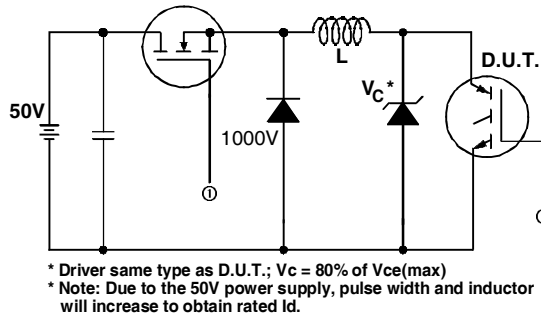

Fig. 13a - Clamped Inductive Load Test Circuit
- ② $V_{CC} = 80\%(V_{CES})$, $V_{GE} = 20V$, $L = 100\mu\text{H}$, $R_G = 7.5\Omega$, (See Fig. 13a)
- ③ Pulse width $\leq 80\mu\text{s}$; duty factor $\leq 0.1\%$.
- ④ Pulse width $5.0\mu\text{s}$, single shot.